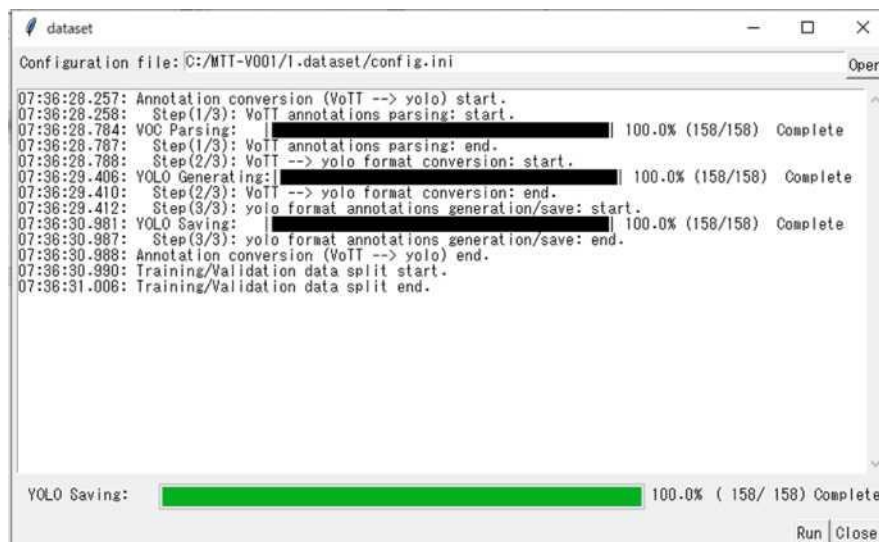

Fig. 5.5 Result of running dataset
- (g) When the log screen shows "Training/Validation data split end. Appears" as shown in Figure 5.5, the status is end.